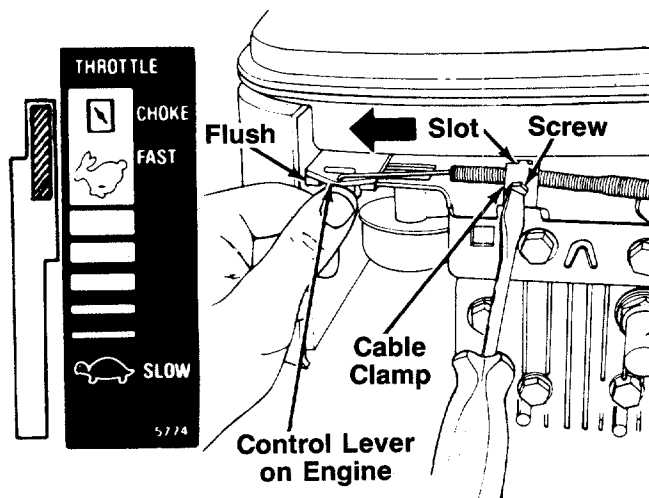

FIGURE 5.
1. Push the throttle control lever on the handle all the way forward to CHOKE position. See figure 5.
2. The throttle control cable is attached to the upper handle. Route the throttle control cable under the lower handle and inside the handle mounting bracket. Hook the "Z" end of the throttle control cable into the hole in the control lever on the engine. See figure 5.
3. Using a 5/16" wrench or nutdriver, remove the screw on the cable clamp shown in figure 5. Slip the control cable under the clamp. Replace the screw (cable should be above the screw), but do not tighten (cable must still move freely beneath the clamp). Make certain the tab on the cable clamp is seated into the slot on the engine.
4. Push the control lever on the engine as far toward the **outside** of the engine as it will go. The edge of the control lever should be flush with the bracket on the engine. See figure 5. Hold the control lever in this position as you tighten the screw on the cable clamp to secure the throttle cable.